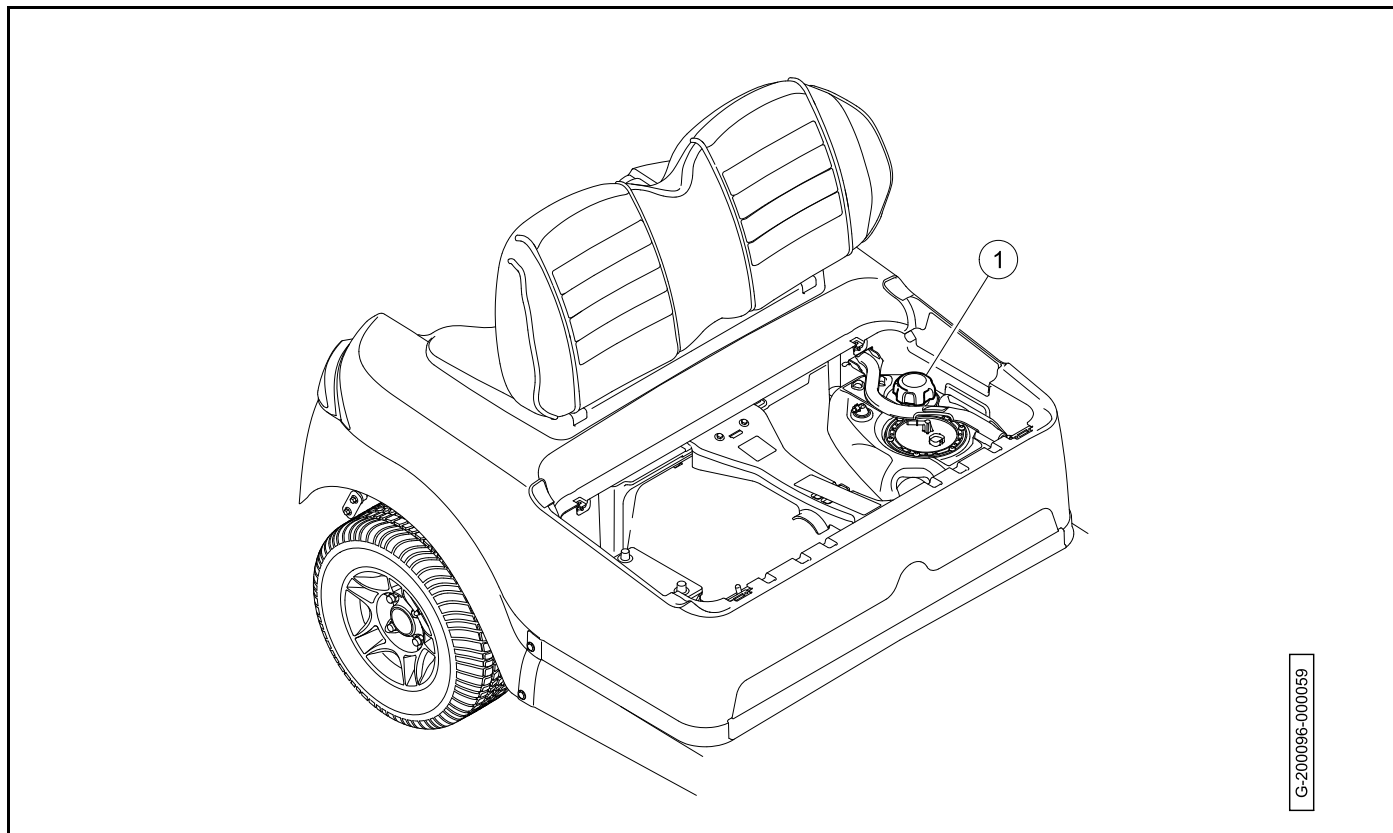

Figure 10-12
4. Remove the fill cap (1) (Figure 10-12).